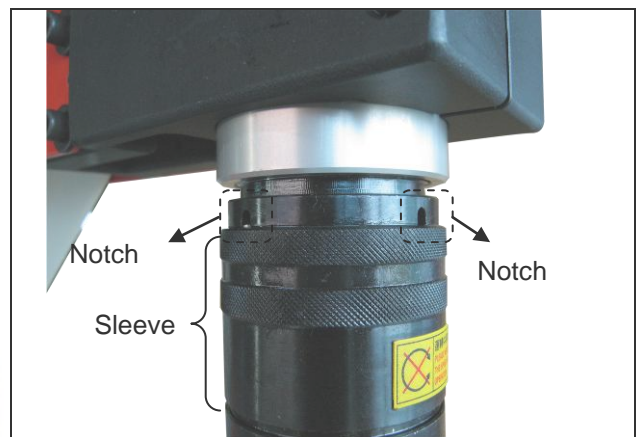

Figure 7-3
- B. Adjust the spindle speed (see Figure 7-3).